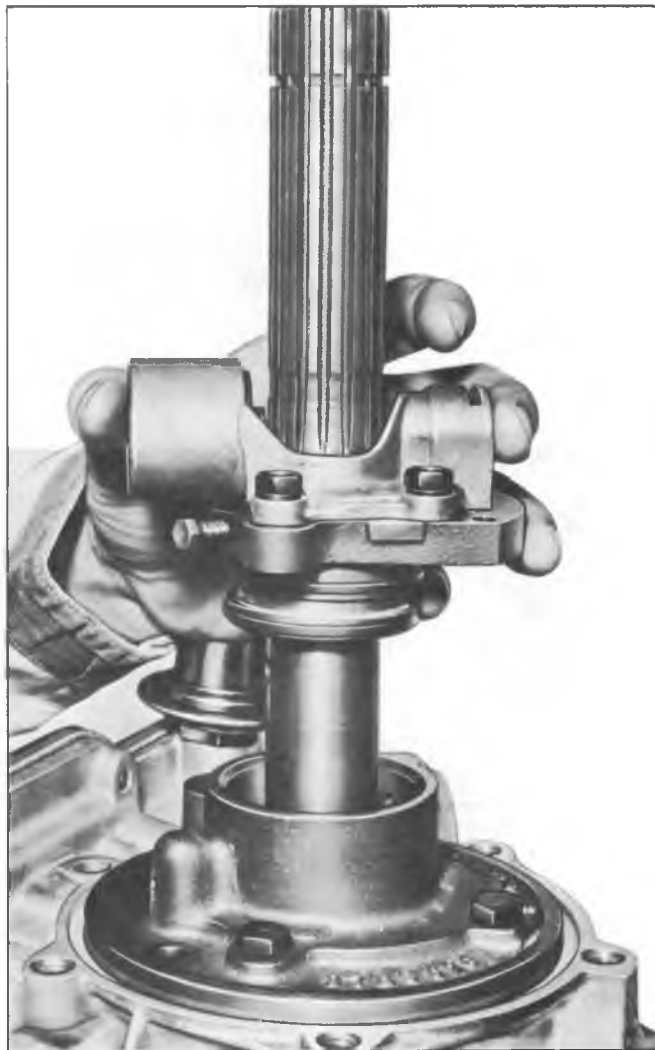

Fig. 5PG--Removing Governor Assembly
7. Loosen the governor drive screw and remove the governor assembly over the end of the output shaft (fig. 5PG).